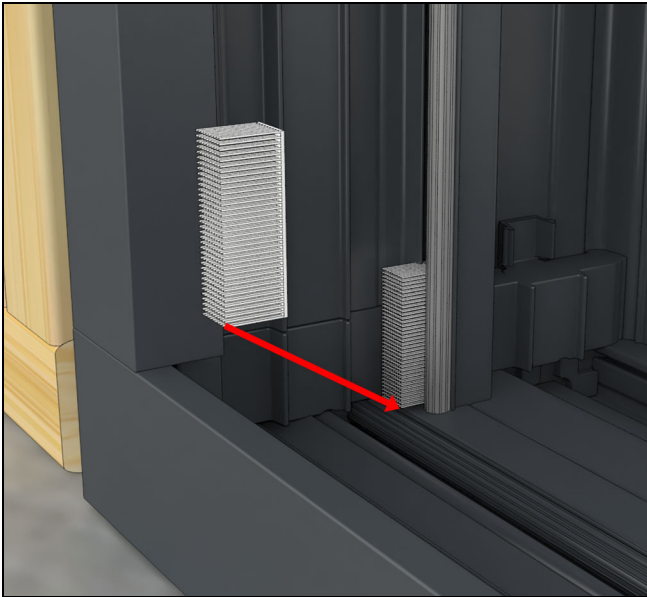

Figure 79
14. Place another dust block at the bottom of the jamb behind the jamb weather strip. See Figure 79.